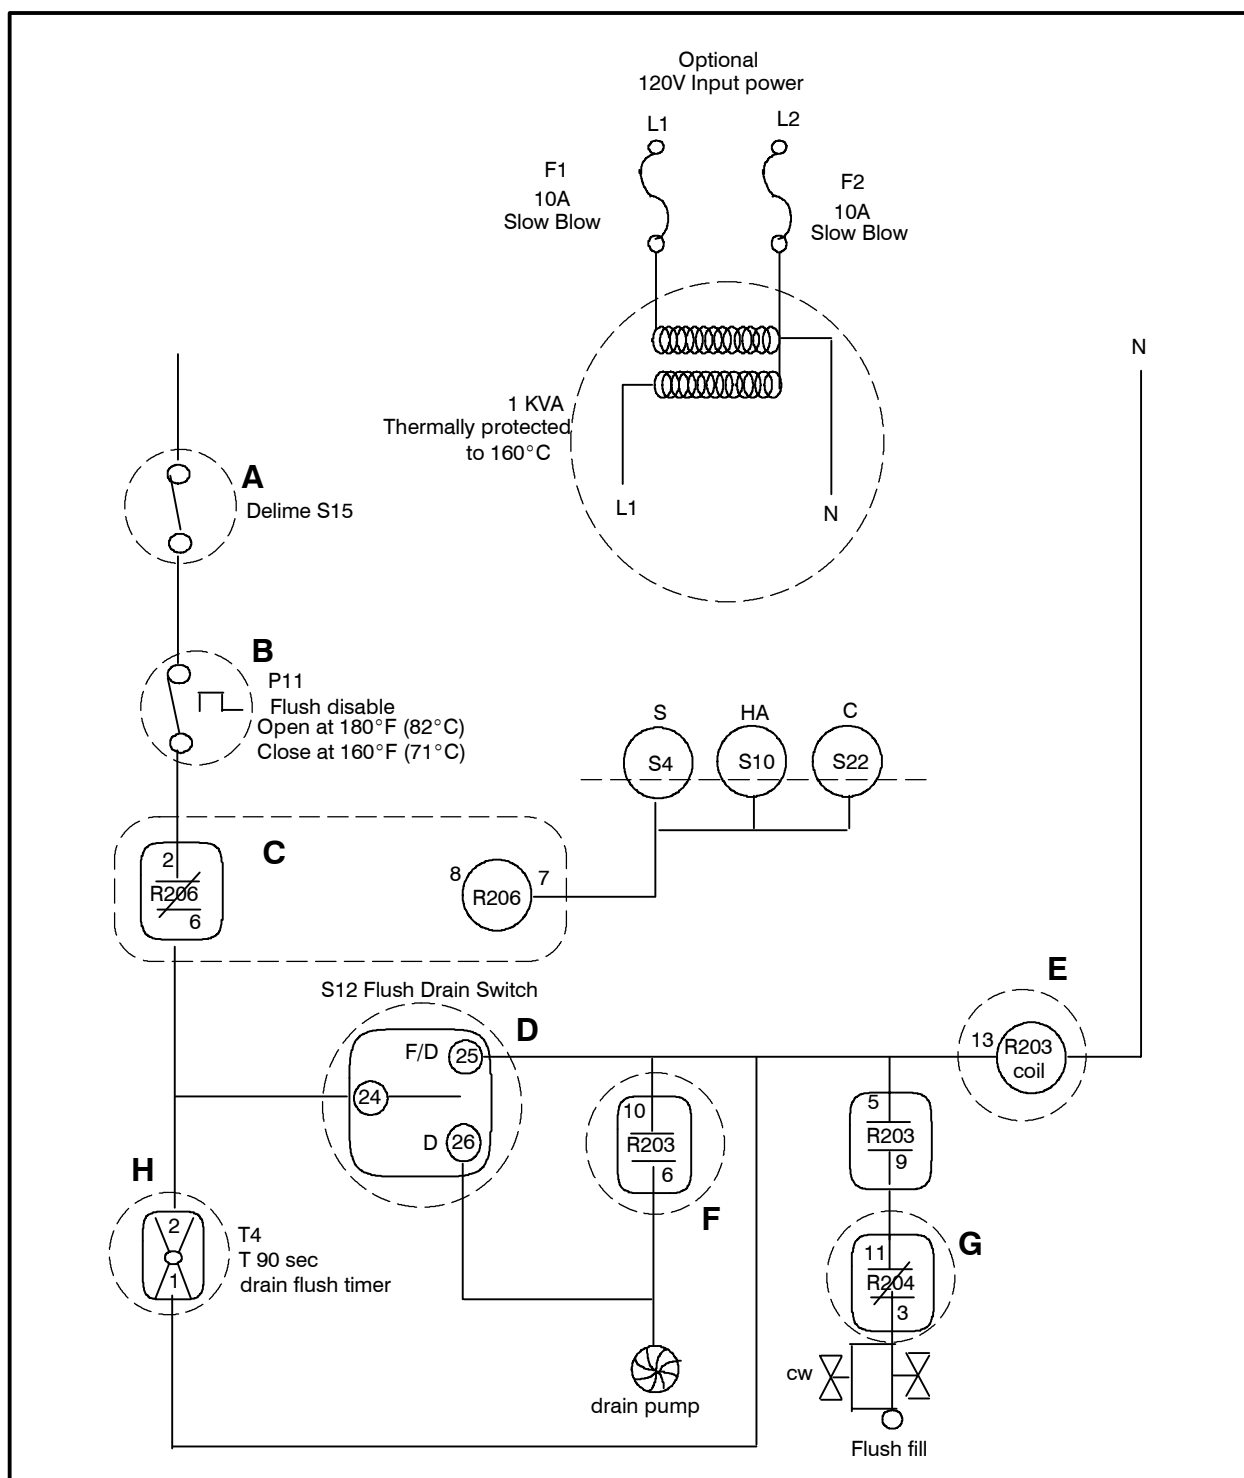

FIGURE 6
1. Check the deliming switch (S15) is in the off position. See FIGURE 6, location (A).
2. Check that P11 contact are closed. See FIGURE 6, location (B).
3. Check that relay R206 contacts are closed. See FIGURE 6.
4. **Auto Flush/Drain** – Check T4 flush/drain solid state timing relay inputs and outputs. See FIGURE 6, location (H).
5. **Manual Flush/Drain** – Check S12 flush/drain switch input and outputs. See FIGURE 6, location (D).
6. Check R203 relay coil and contacts. See FIGURE 6, location (E).
7. Check that R204 contacts are closed. See FIGURE 6, location (G).
4. Check inputs and outputs of meat probe controller. See FIGURE 6, location (M).